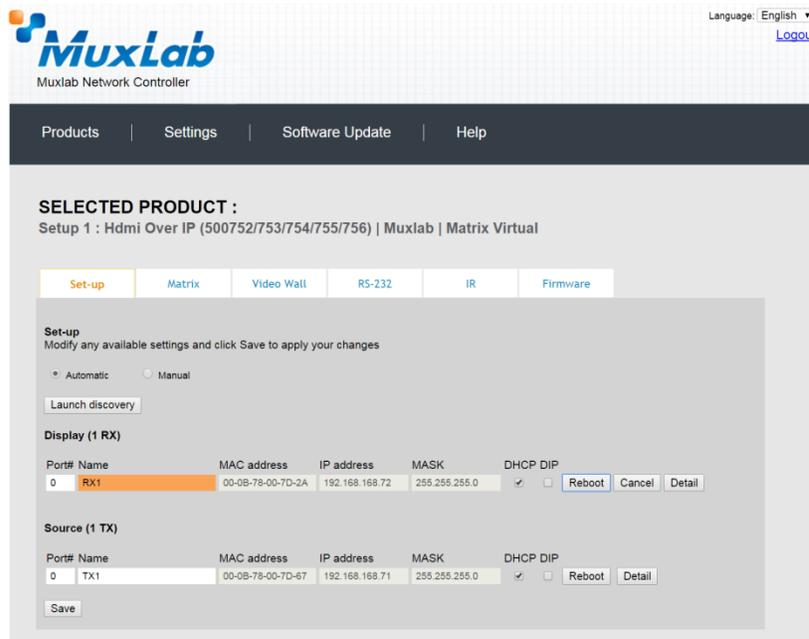

Figure 383: Name Editing
Each 500755-AMP transmitter and receiver can be assigned an arbitrary descriptive name, normally reflecting the end device that it is terminated to. To change the name of any speaker sink (RX) or audio source (TX) device, click the **Name** field to edit its contents. Several **Name** fields can be edited before saving changes, as shown in Figure 383 (orange highlighted fields).